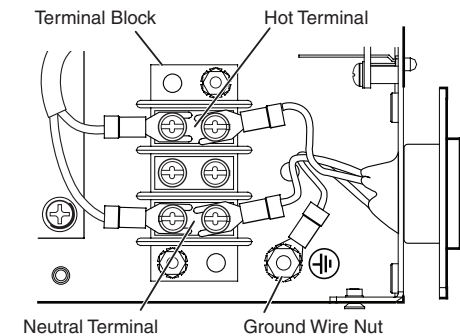

Figure 5 — Terminal block and IEC wiring
5. Use the Phillips head end of an Extron Tweezer or a small standard screwdriver to loosen the screws holding the hot and neutral wires on the side of the terminal block nearest the EMT plate opening (figure 5).